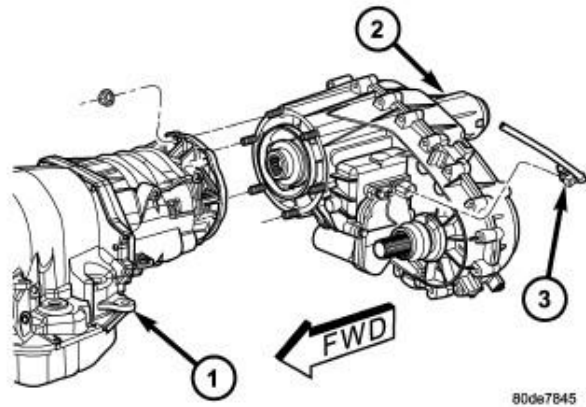

Figure 7 – Transfer Case
17. Disconnect transfer case shift motor and mode sensor wire connectors (3) and the transfer case wiring harness retainers (Figure 7).
22. Remove nuts attaching transfer case (2) to transmission (1) (Figure 7).